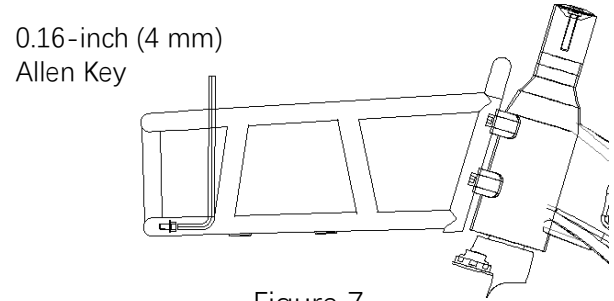

Figure 7.
3. Remove the bolts on the basket with the 4 mm Allen key, as shown in Figure 7.